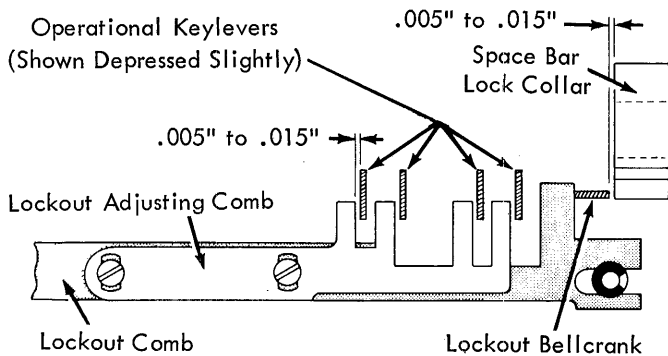

FIGURE 57. Adjusting Comb, Keyboard Unlocked
3. Keyboard Lock Link Clevis - With the keyboard unlocked, adjust the keyboard lock link clevis so that the operational keylevers clear the lockout adjusting comb by .005" to .015" (Fig. 57). This insures that the lockout mechanism will not interfere with the operational keylevers and also will not require excessive motion to lock the functions.
- a. Left or right to clear the lockout bellcrank by .005" to .015" with the keyboard unlocked (Fig. 57).